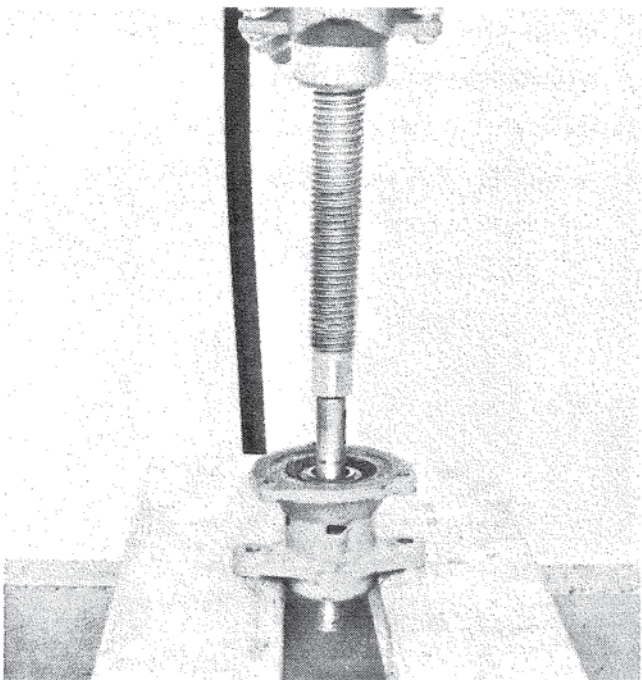

Figure 5. Pressing Shaft from Body.
E. Place body in arbor press and press shaft w/bearings from body. Figure 5.